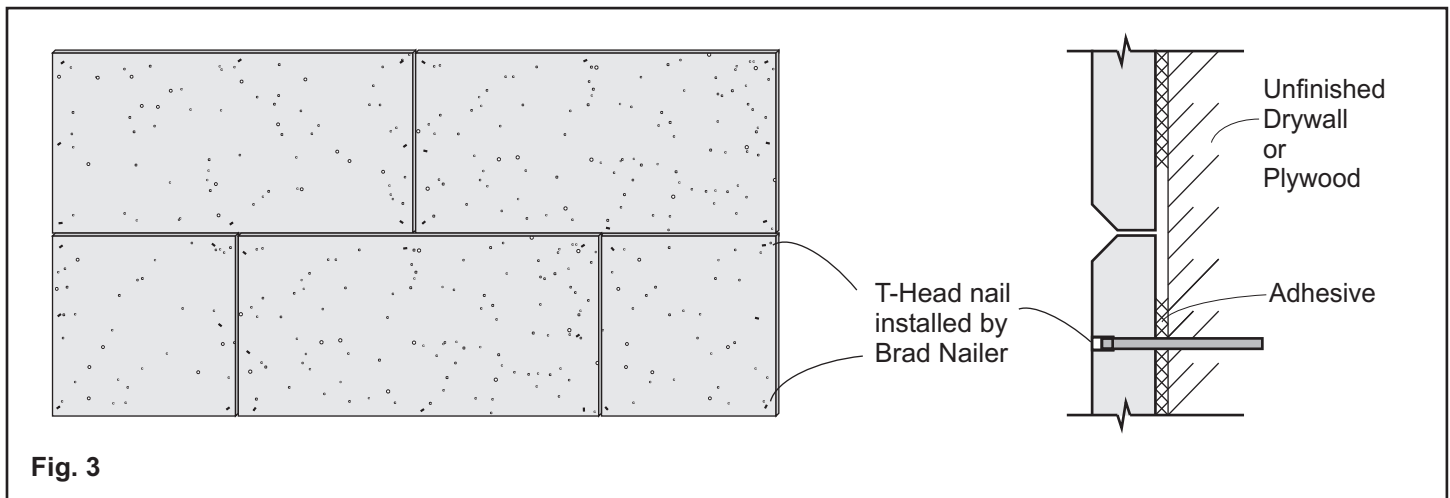

Fig. 3
3. Install panels by pressing them into position with a slight sliding motion to spread the adhesive evenly between the rear surface of the panel and the wall. Use a Brad Nailer (nail gun) to hold panels in place until the adhesive sets (use 16/18 ga. nails into drywall or plywood (preferred) substrate - See Fig. 3. Usually, the small countersunk nail heads from a Brad Nailer will blend in with the surface texture without the need for using QuarryCast® patching compound.